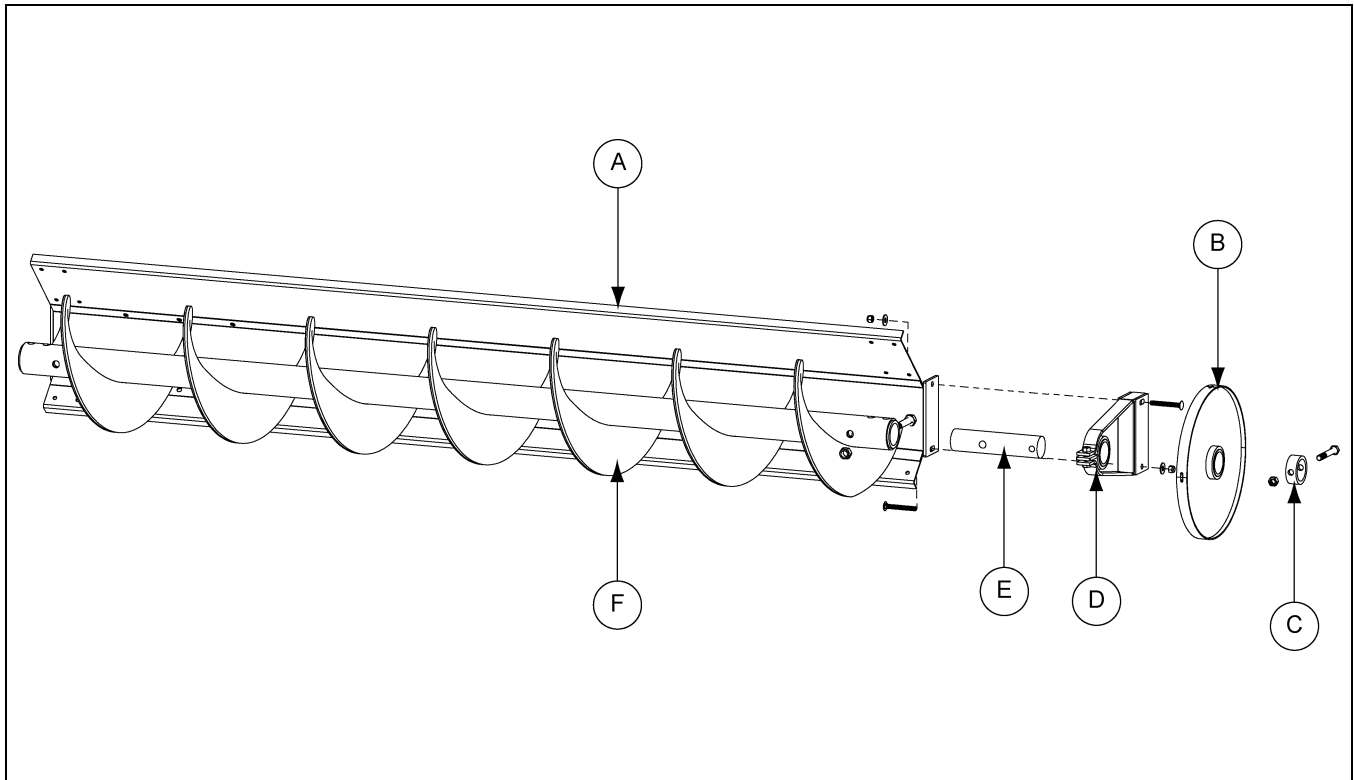

Figure 4AA End Wheel Assembly
1. Connect the stub shaft (E) into the sweep flight (F) using a 5/8"-11 x 4" hex head cap screw and 5/8" stover nut.
2. Install the bearing stand assembly (D) onto the stub shaft (E) and bolt it to the sweep shield using two (2) 3/8" x 3" carriage bolts, flat washers and nylock nuts.
3. Install the end wheel (B) and collar (C) onto the end of the stub shaft (E). Pin the collar in place with a 1/2" x 3-1/2" hex head cap screw and prevailing torque lock nut. *(See Figure 4AA.)*